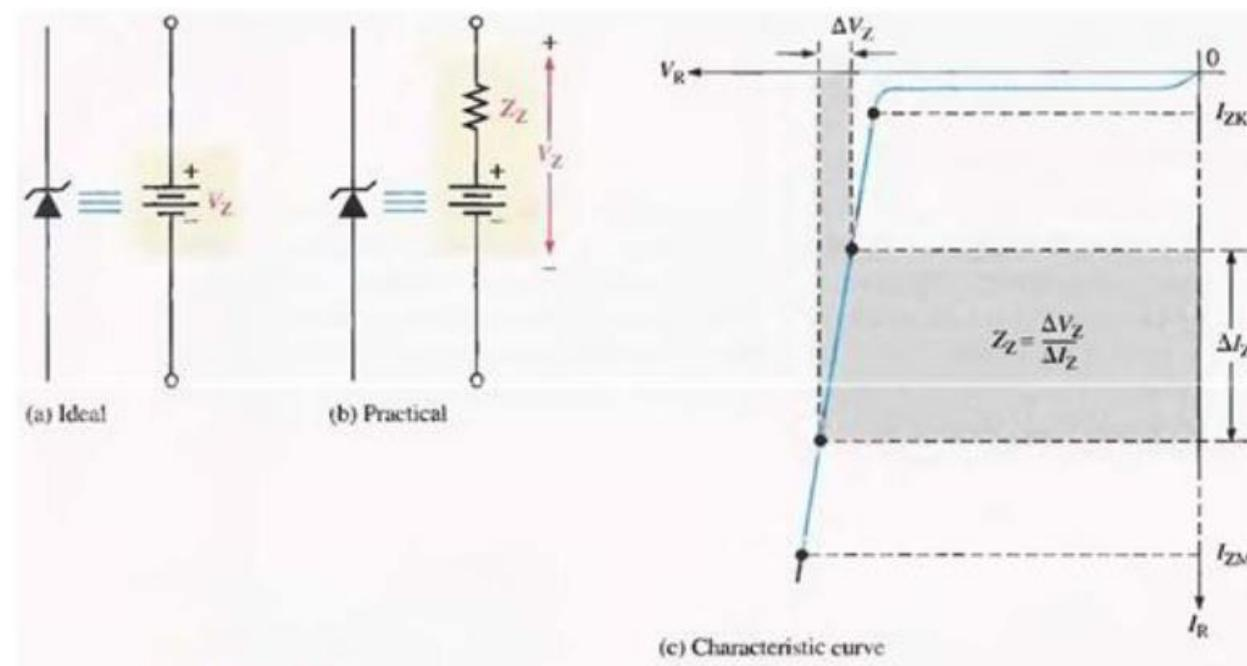

FIGURE 3-4
**Zener Equivalent Circuit** Figure 3-4(a) shows the ideal model of a zener diode in reverse breakdown. It has a constant voltage drop equal to the nominal zener voltage. This constant voltage drop is represented by a dc voltage source even though the zener diode does not actually produce an emf voltage. The dc source simply indicates that the effect of reverse breakdown is a constant voltage across the zener terminals.
Figure 3-4(b) represents the practical model of a zener diode, where the zener impedance ( $Z_z$ ) is included. Since the actual voltage curve is not ideally vertical, a change in zener current ( $\Delta I_z$ ) produces a small change in zener voltage ( $\Delta V_z$ ), as illustrated in Figure 3-4(c). By Ohm's law, the ratio of  $\Delta V_z$  to  $\Delta I_z$  is the impedance, as expressed in the following equation: